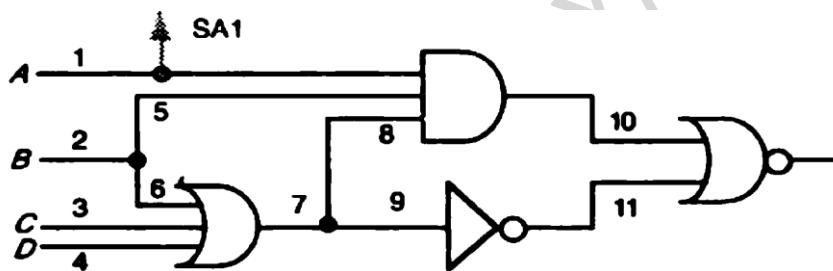

Fig. 7.2
c) For the circuit given below in *Fig.7.2* below consider a